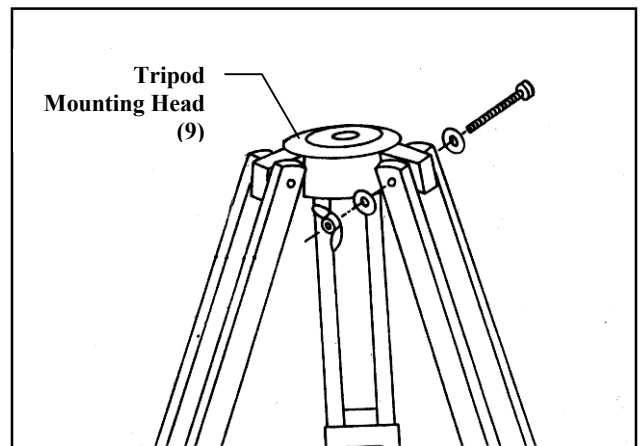

Figure 1-2
1. Slide the two top portions of each tripod leg around the sides of each flange on the tripod mounting head (9). Make sure that the tripod center support brace hinges (13) are located on the inside of the each leg.
2. Slide the provided screws through the tripod leg and flange, until the screw extends out the other side mount (see Figure 1-2). Slide the washer and the nut over the screw and tighten. This can be left slightly loose, to allow for positioning the legs later, when attaching the accessory tray.